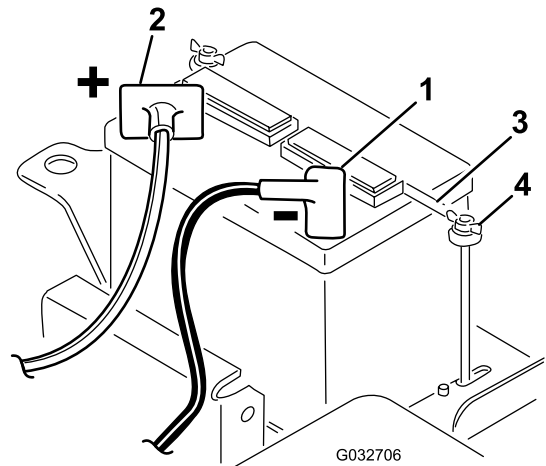

Figure 5
2. Connect the positive battery cable (red) from the starter solenoid to the positive post (+) of the battery (Figure 5). Secure it with a carriage bolt and nut. Make sure that the cable will clear the seat, in the rear-most position, which could cause wear or damage to the cable.
5. Install the battery clamp and washers and secure them with wing nuts (Figure 5).